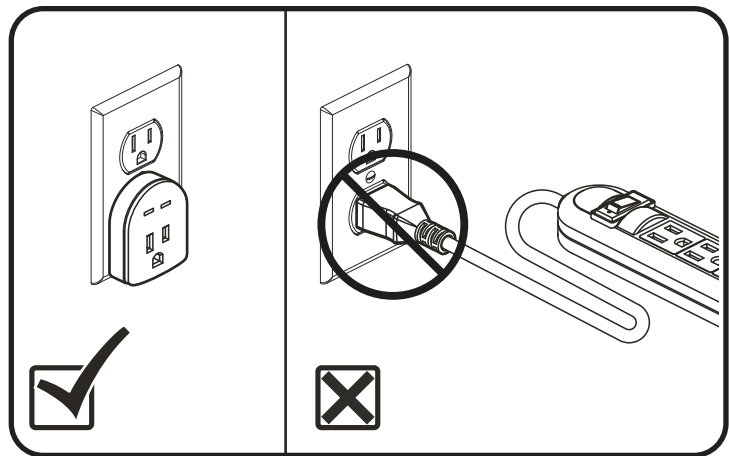

Figure 4.3 Surge Protector
7. Plug the power cord directly into the electrical outlet. **Do not use an extension cord! See fig 4.3.**
- Plug the power cord directly into the electrical outlet. **Do not use an extension cord! See fig. 4.3.**